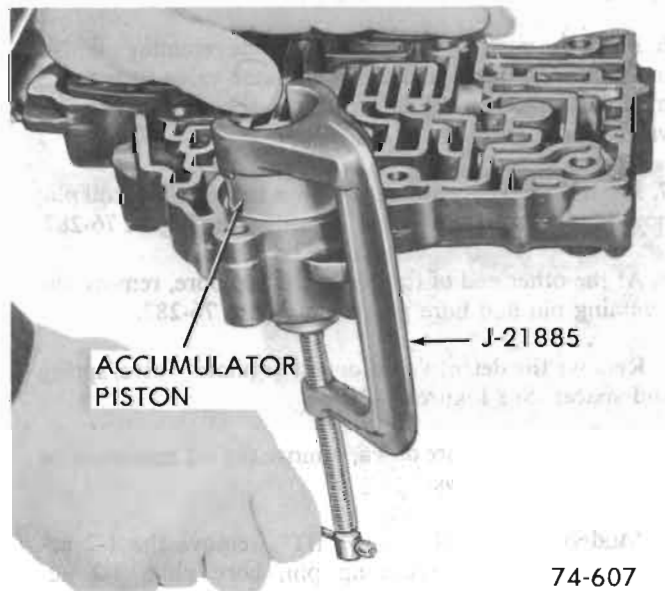

Figure 76-150
3. Install special Tool J-21885 on accumulator piston and remove retaining "E" ring. See Figure 76-150.